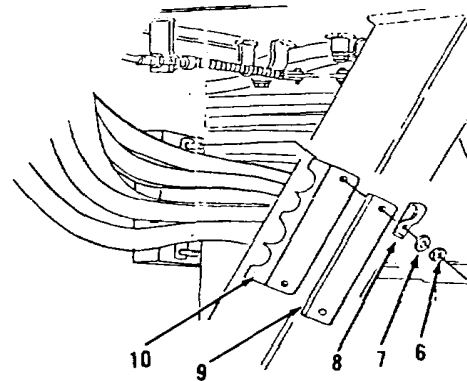

Figure 16-2.
- 31. Install clamp (10), plate (9), clip (8), two washers (7) and nuts (6, Figure 16-2) under left, rear of cab.